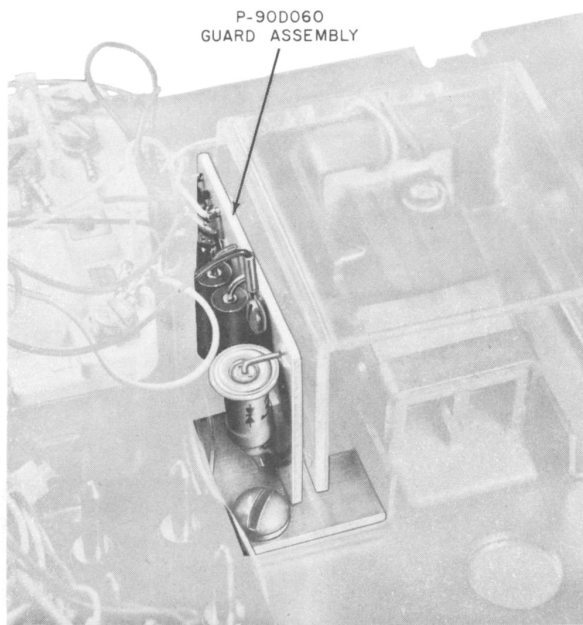

Fig. 3—Installed P-90D060 Guard Assemblby
3.04 An optional polarity guard (ordered separately) is available for use with these sets. It is intended for use when specified by local instructions for end-to-end signaling installations, refer to Fig. 3 and Table C for connections.